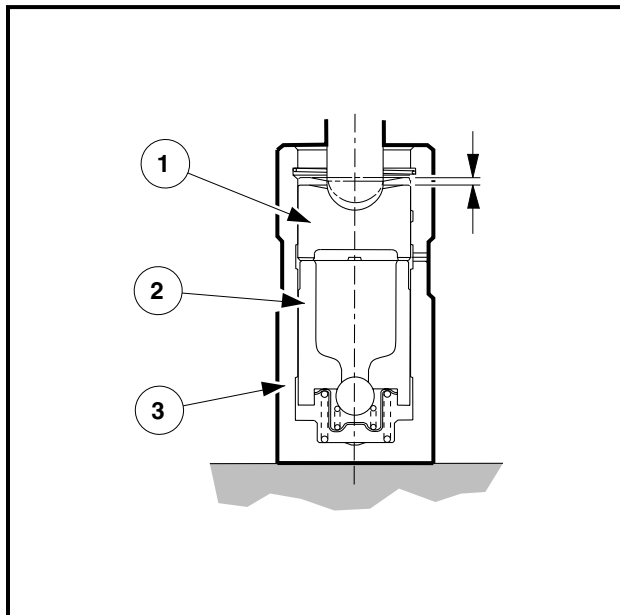

Figure 18-40 Inspect for Hydraulic Lifter Wear
If the engine typically has remained noisy for two minutes after it started, the hydraulic lifters might be worn between the plunger (2) and the body (3). Proceed with the following to check the hydraulic lifter for wear (**Figure 18-40, Page 18-22**).
2. Push the socket (1) down and measure the distance that it sinks (**Figure 18-40, Page 18-22**).
- Do not depress the socket (1) (Figure 18-40, Page 18-22). This will cause the engine oil to leak out of the high pressure chamber during storage. Keep the hydraulic lifters upright to prevent the engine oil from spilling out of the lifters during storage.